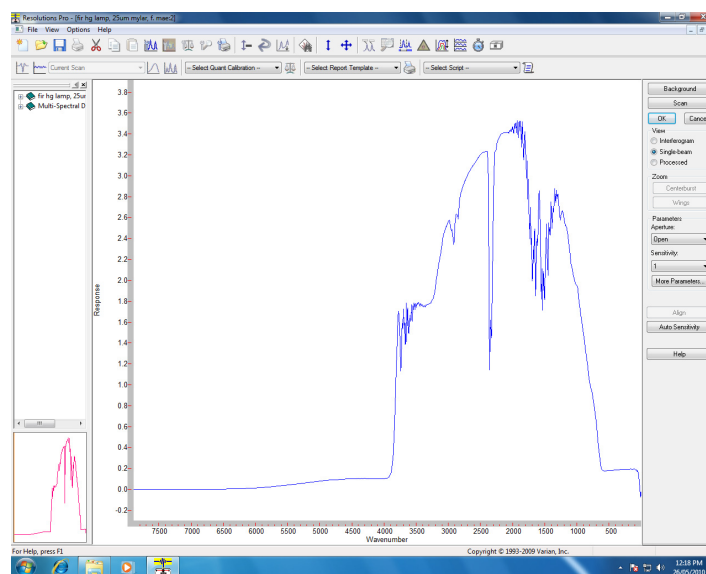
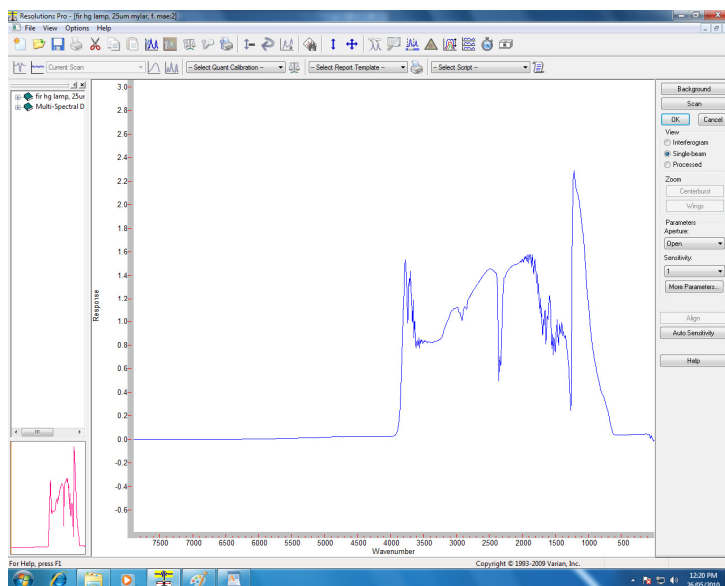

Figure 5. Single beam spectrum of the coated side of the test slide
Figure 6. Spectrum of the glass side of the test slide
- 6** Select **Single Beam** while in 'Signal Monitor' and check that the slide is correctly positioned. Figure 5 shows a spectrum of the coated side and Figure 6 shows a spectrum of the glass side.